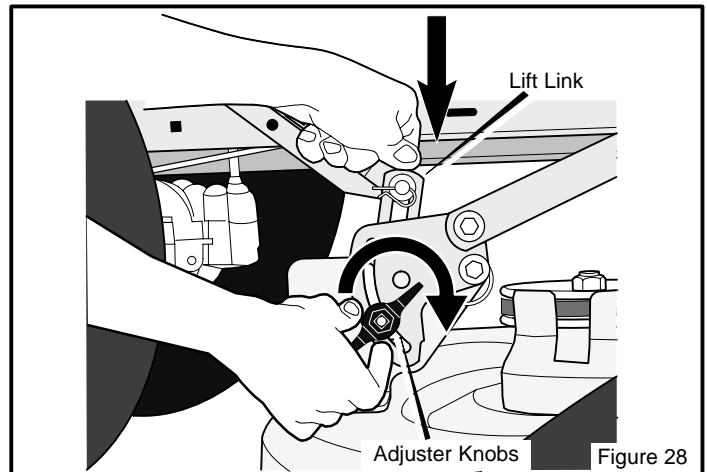

Figure 28
6. Loosen the left and right **adjuster knobs** (Figure 28). Push down on each side of the mower housing. Make sure both sides of the mower housing are setting on a flat surface. Also, make sure the lift links are loose and can easily move up or down.
7. Push down on the **lift links** and tighten the left and right **adjuster knobs** (Figure 28). Make sure the **adjuster knobs** are tight. If necessary, use a wrench to tighten the **adjuster knobs**. For plastic **adjuster knobs**, tighten to a torque of 7 foot pounds (9,5 N-m). For metal **adjuster knobs**, tighten to a torque of 10 foot pounds (13,5 N-m).